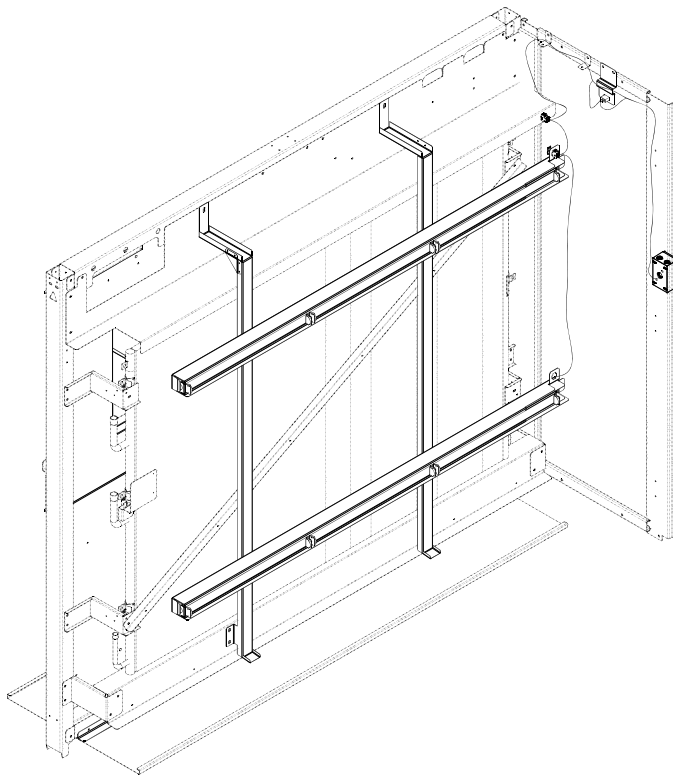

Fig. 2 — Typical UV-C Lamp and Fixture Kit Installation on 48/50V 27-50 Tons
1. Determine which side panel (not the top panel) of the cooling coil section has the junction and switch boxes installed. Remove or open the adjacent panel to access the cooling coil section. See Fig. 2 or 3.